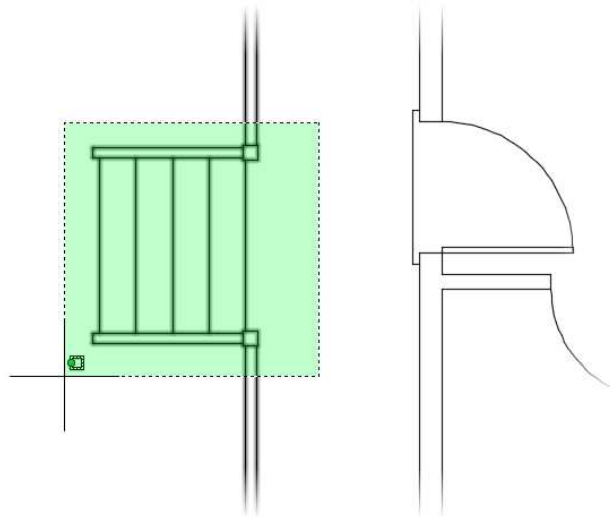

FIGURE 5.33: Select the stairs for the next STRETCH command.
3. Create a crossing selection window around the stairs, stair handrails, and stair posts, as shown in Figure 5.33.